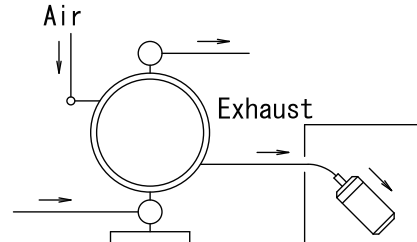

Fig.3.2
- \*Exhaust should be directed outside, not into the fluid in which the pump is submerged. For information on how to arrange the exhaust, see NOTE: Arranging outside exhaust and Fig.3.2 below.